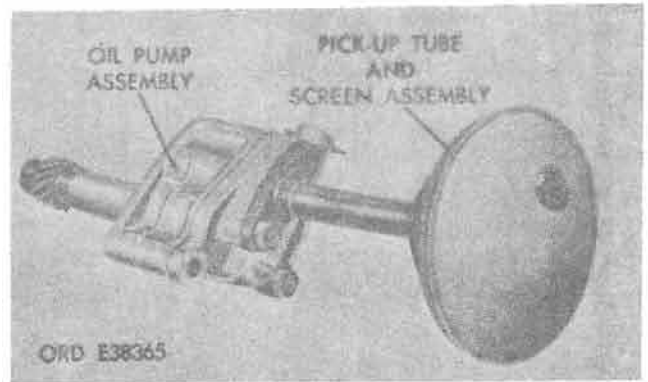

Figure 4-91. Oil pump assembly with pickup tube and screen assembly.
c. **Oil Pump Assembly.** Remove oil pump assembly with pickup tube and screen assembly in place (fig. 4-91).